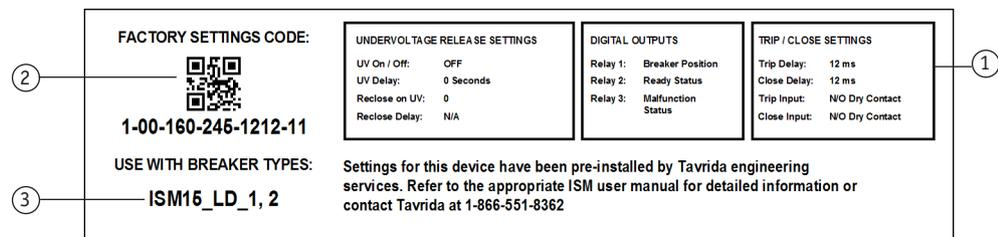
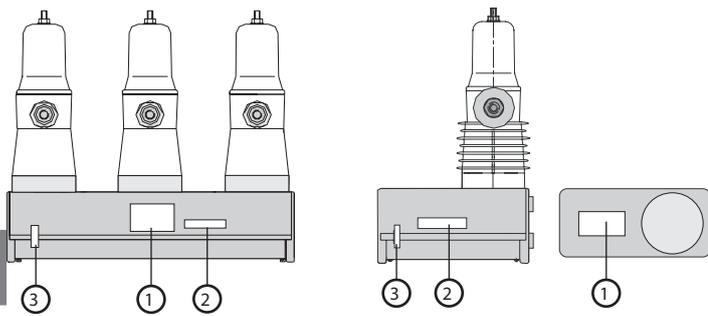

Figure 18
Figure 19
- Damage to the seals (Figure 19, Figure 20)
The CM_16 has an additional label for factory programmable settings (Figure 18); see page 31 for detailed information on the settings functions.
Arrangement of the labels (Figure 18, Figure 19):